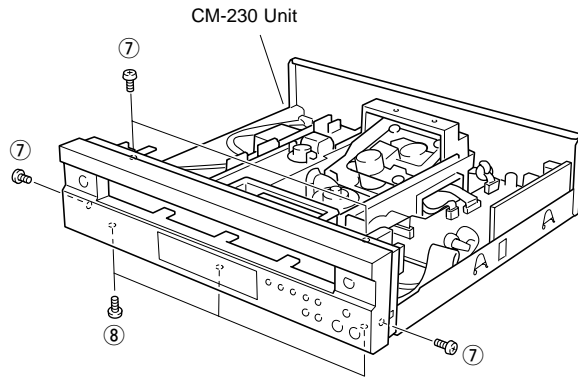

Fig. 3
- b. Remove 4 screws ( ⑦ ) and 3 screws ( ⑧ ) as shown in Fig. 3.
- c. Remove the Front Panel Unit as shown in Fig. 3.